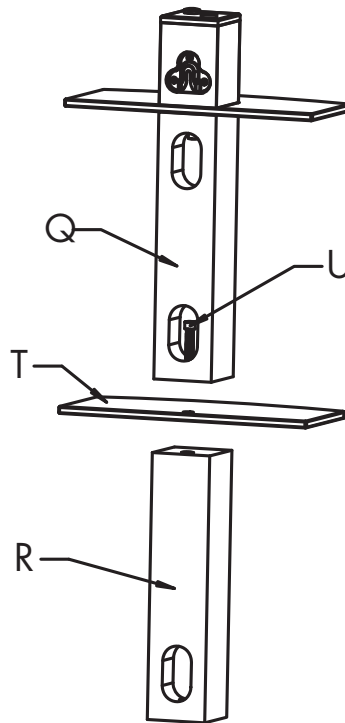

Figure 11a
- Assemble **Side Unit Top Support** to **Side Unit Lower Support (R)** by using **Socket Cap Screw** making sure to insert **Glass Shelf** between **Supports**. Refer to Figure 11a.